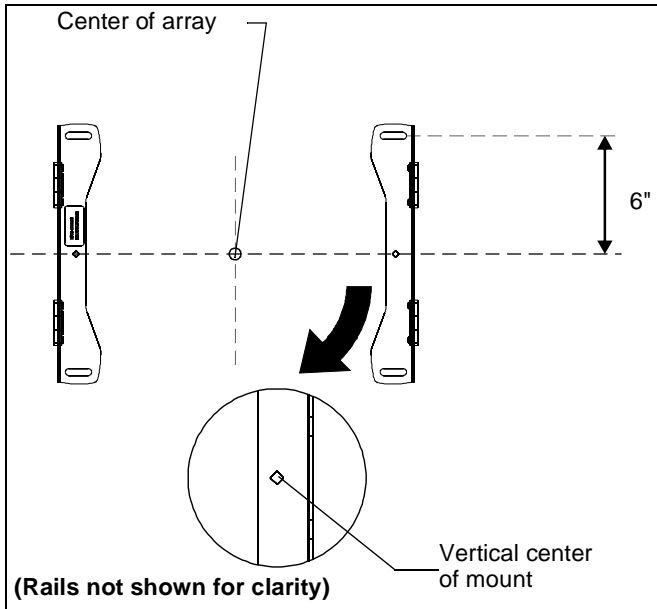

Figure 5
2. Line up the diamond on bracket with center of array marking to determine vertical center. (See Figure 5)
1. Align the center of the interface bracket with center of screen. (See Figure 5)